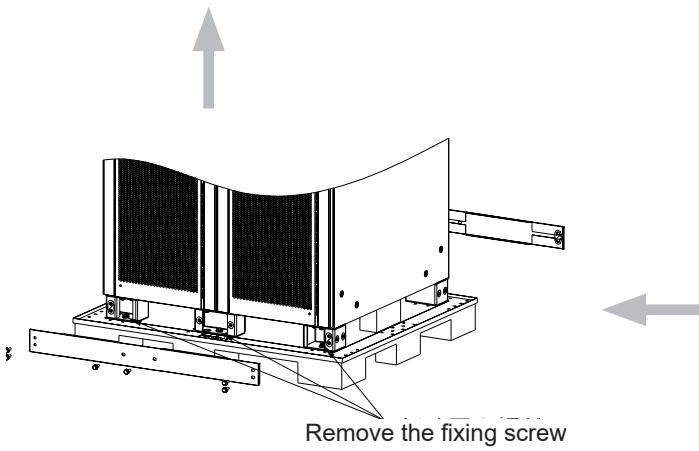

Figure 4-4: Remove the fixing screw
4. Remove the front and rear foot baffles at the bottom and save them, remove the anchor screws, and then put the foot baffles back (Figure 4-4)